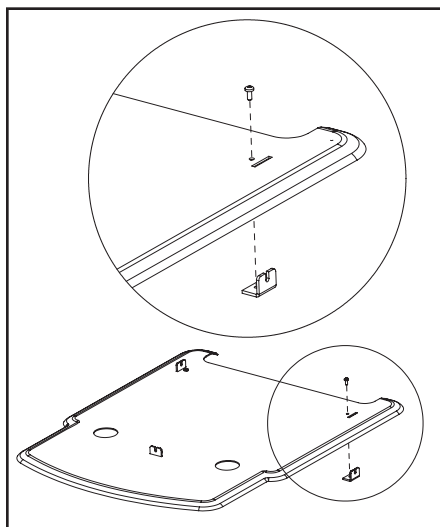
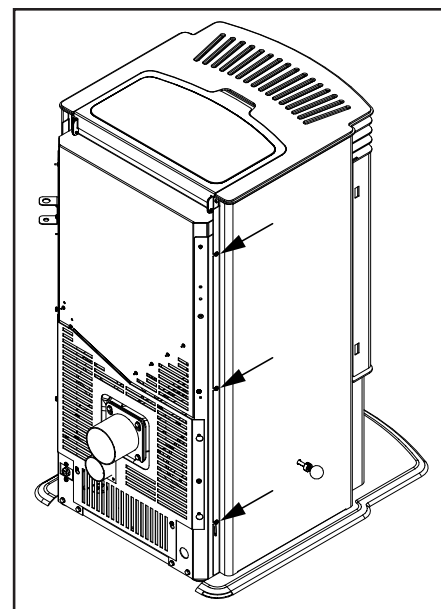

Figure 12: Installing tabs into hearth pad.
Figure 13: Screws at the back of the cabinet side.
- a) Ensure the screws behind the ash box (Figure 12) and the three (3) on each side at the back (Figure 13) are loosened.